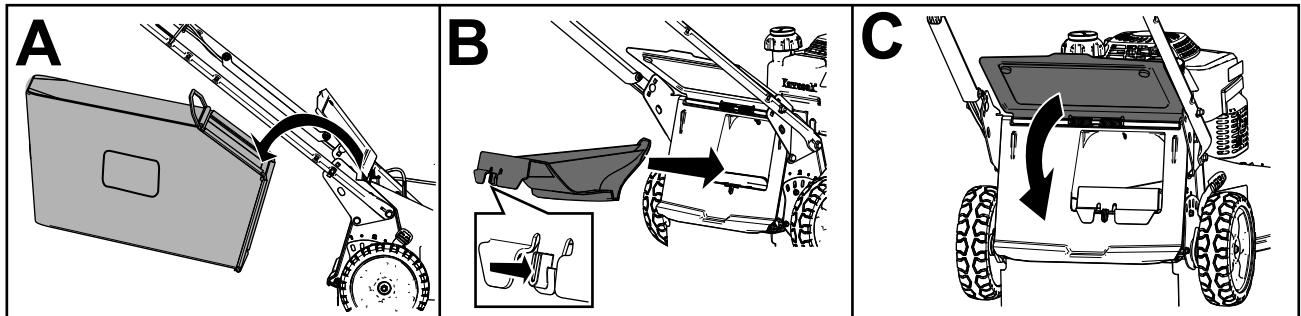

Figure 17
- If the grass bag is on the machine, remove it (A of Figure 17).
- If the rear-discharge plug is not installed, grip it by the handle, raise the rear deflector, and insert it into the rear-discharge chute until the latch locks into place (B of Figure 17).
3. Remove the bag rod on the grass bag from the notches at the base of the handle (A of Figure 17).
4. Install the discharge plug (B of Figure 17).
5. Lower the rear deflector (C of Figure 17).